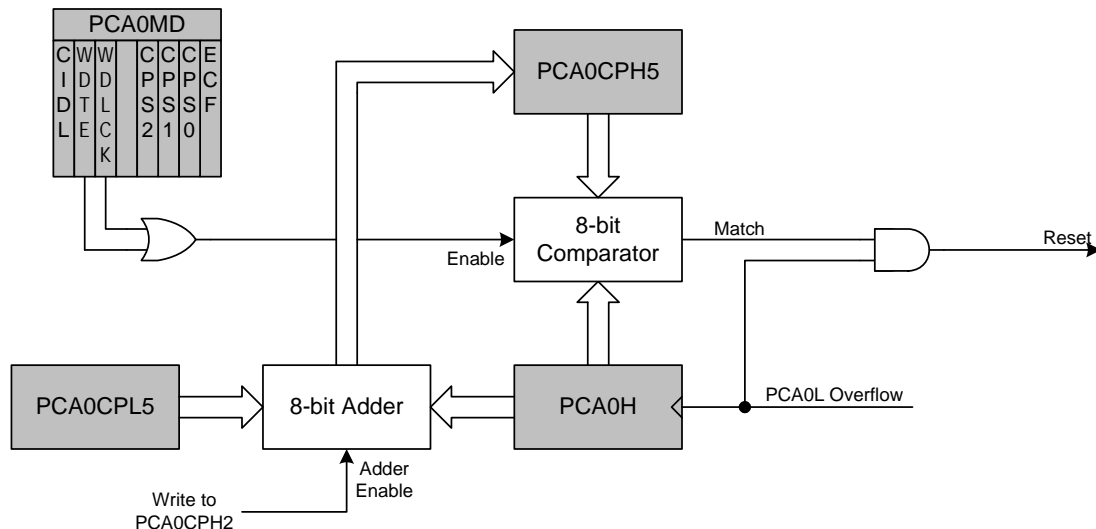

Figure 27.11. PCA Module 2 with Watchdog Timer Enabled
While the WDT is enabled, writes to the CR bit will not change the PCA counter state; the counter will run until the WDT is disabled. The PCA counter run control bit (CR) will read zero if the WDT is enabled but user software has not enabled the PCA counter. If a match occurs between PCA0CPH5 and PCA0H while the WDT is enabled, a reset will be generated. To prevent a WDT reset, the WDT may be updated with a write of any value to PCA0CPH5. Upon a PCA0CPH5 write, PCA0H plus the offset held in PCA0CPL5 is loaded into PCA0CPH5 (See Figure 27.11).